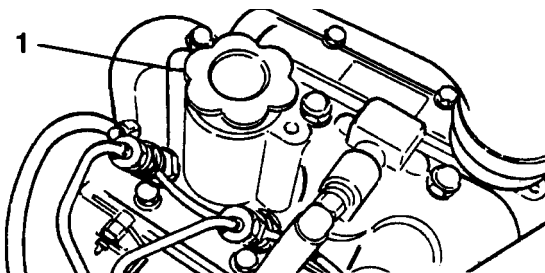

Figure 2
3. If the oil level is low, remove the oil fill cap (Fig 2) and gradually add small quantities of oil, checking the level frequently, until the level reaches the FULL mark on the dipstick.